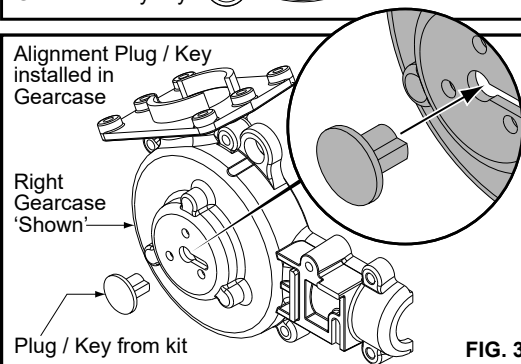

FIG. 3
2. Install **plug / key** from kit into gearcase / helical gear keyway (fig. 3).